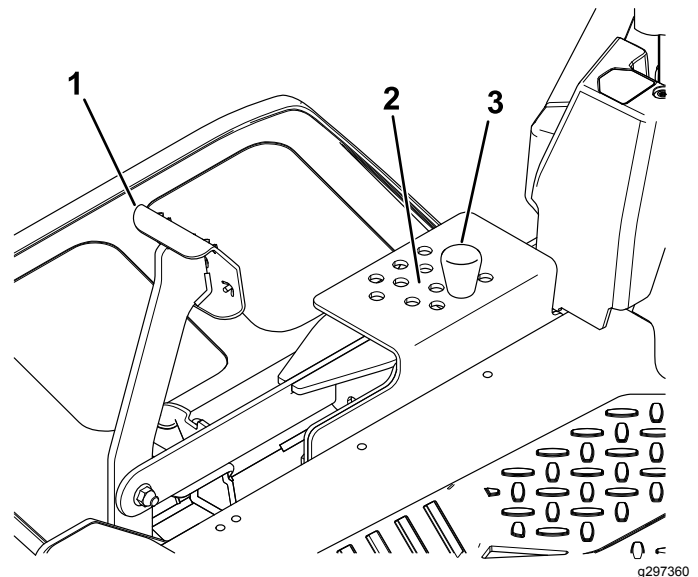

Figure 35
2. To adjust, remove the pin from the height-of-cut bracket (Figure 35).
3. Select a hole in the height-of-cut system corresponding to the desired height of cut and insert the pin (Figure 35).